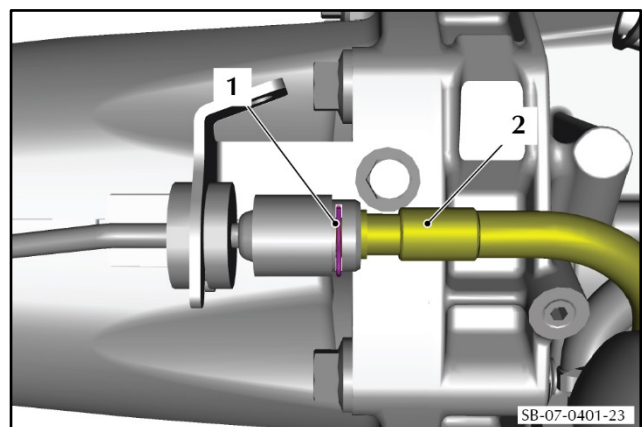

Figure 25
40. Remove the clip (1) (if it is still installed) that holds the clutch hose connector (2) together at the joint between the transaxle and the torque tube (refer to Figure 25).
41. Disconnect the hose (2).